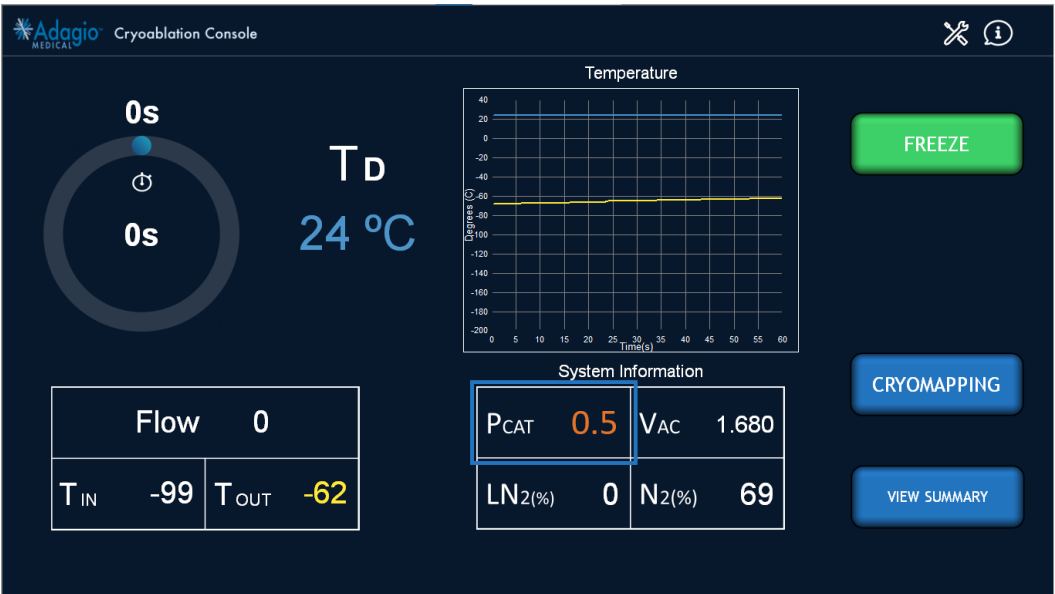
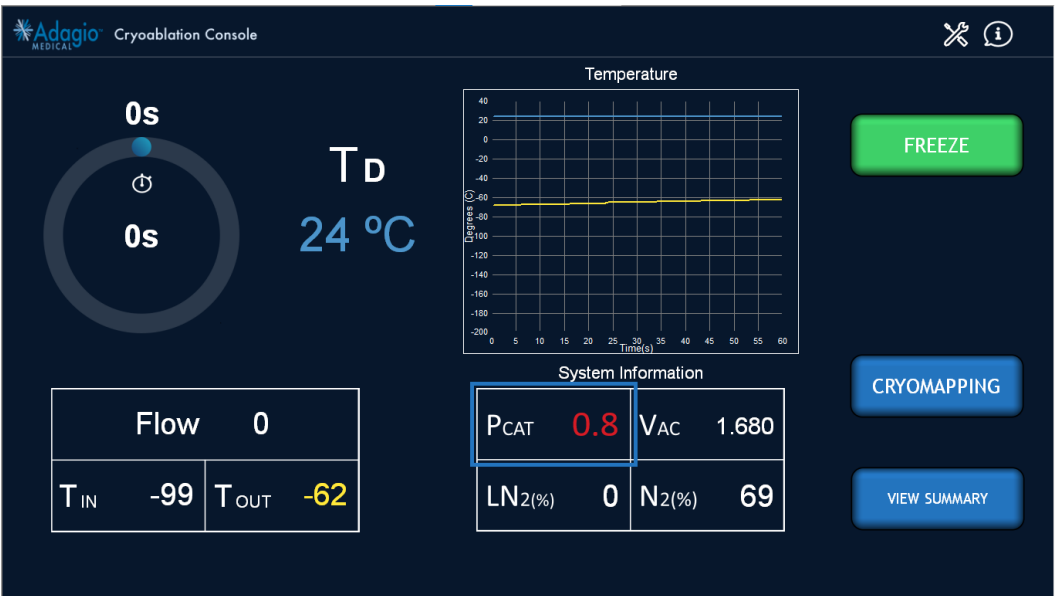

Figure 51 – P_{CAT} Value In Orange During Freeze Screen Image (Note: P_{CAT} at 0.5 psi is higher than alert limit of 0.4 psi)
Figure 52 – P_{CAT} Value In Red During Freeze Screen Image (Note: P_{CAT} at 0.8 psi is higher than alert limit of 0.7 psi)
6. The catheter pressure (P_{CAT}) will also be monitored by the console software. If P_{CAT} rises to 0.4 psi, the P_{CAT} value will show in orange (Figure 51) at which point the user should pay close attention to P_{CAT} . If P_{CAT} rises to 0.7 psi, the P_{CAT} value will show in red (Figure 52) at which point the user should replace the Catheter. If P_{CAT} rises to 1.0 psi, the Console will eject the Catheter from the Catheter Connection Port. The Storage Plug must be inserted to proceed. Perform visual inspection and Full Functional Test on the Catheter per Catheter IFU.